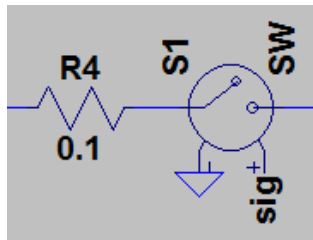

Figure 3: Realistic switch model.
Start with a simple generic Switch model (SW), rather than using a FET or IGBT. You won't then have to worry about maximum current or reverse bias or about switching transients (or possible simulation hang-ups). To make it a little more realistic though you should accompany your switch with a 100 mΩ resistor in series with it (this represents the ON resistance of the switch), Figure 3.